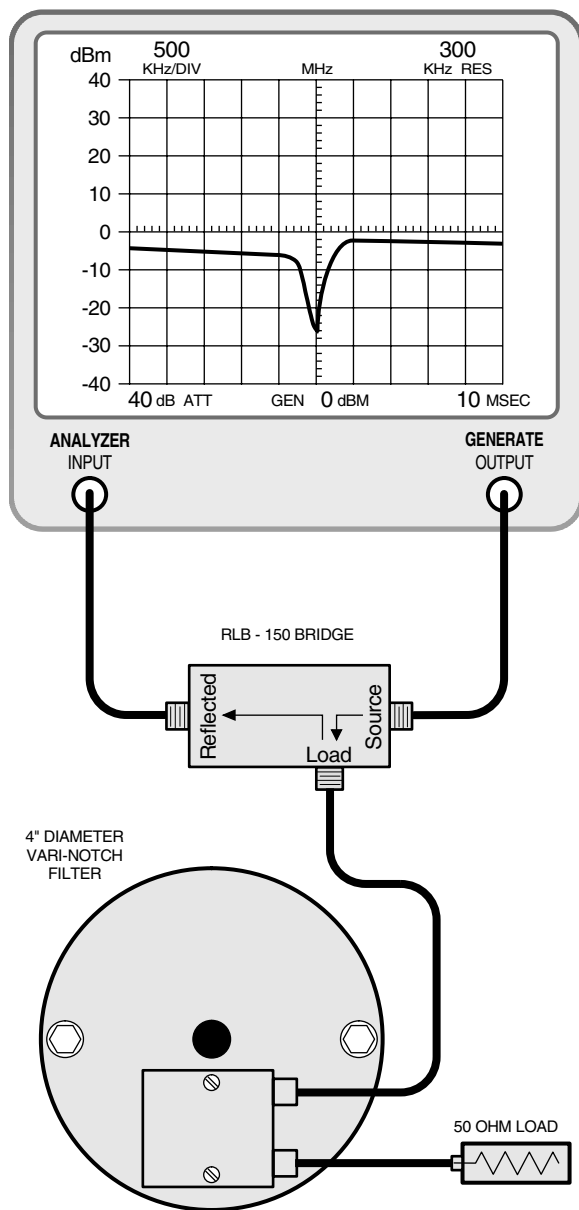

Figure 4: Checking the passband.
7. Connect the "load" port on the RLB to the input of the loop assembly, make sure the output of the loop assembly is connected to a 50 ohm load, refer to figure 4. The display will now present the return loss curve for the 4" Vari-Notch filter being measured. **The passband is that frequency range over which the return loss is 15 dB or greater.**
Adjust the passband by setting the peak (maximum negative value) of the return loss curve at the desired passband frequency (should be the center-vertical graticule line on the IFR A-7550's display). Refer to **Figure 4**.